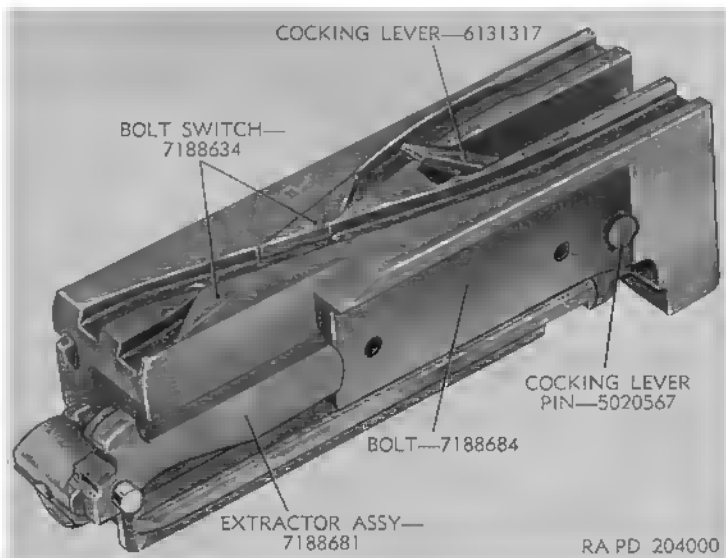

Figure 17. Bolt group.
a. *Bolt Group.* Remove and disassembly bolt group (fig. 17) as prescribed in TM 9-2012. Use cal. .30 bolt switch pin drift 8407287 (fig. 6) to remove 0.156 x 3/4 spring pins holding the two bolt switches. Use cal. .30 ejector pin drift 8407289 (fig. 6) to remove the ejector pin.